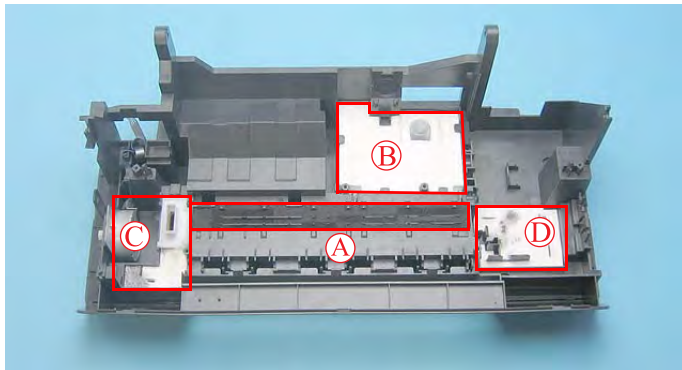

Figure 4-84. Removing Waste Ink Pads
- When installing (2) in the section (B) (refer to Figure 4-84), be sure to match the positioning tabs and press (2) until it clicks to secure it in the right position.